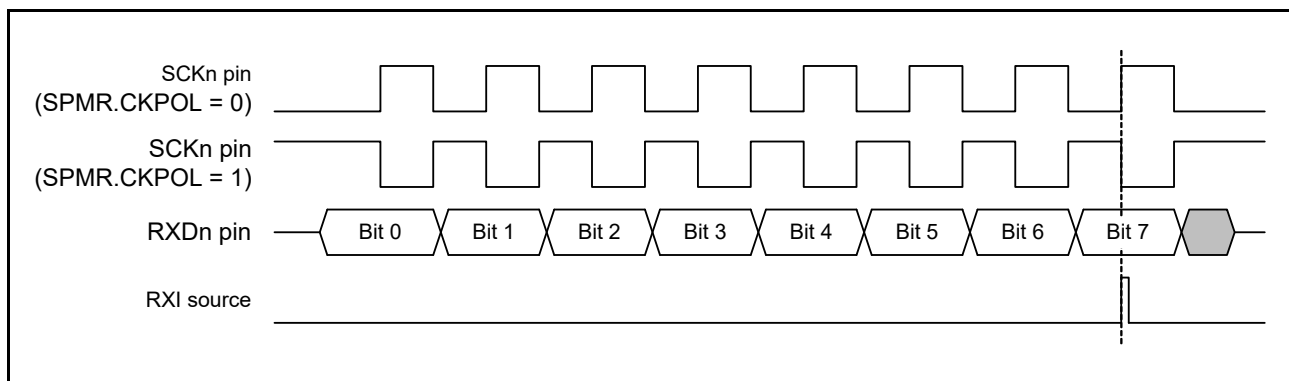

Figure 23.80 Timing of the RXI Interrupt in Simple SPI Mode (with Clock Delay)
- In the case of the setting for clock delay (SPMR.CKPH bit is 1), the receive data full interrupt (RXI) is generated before the final clock edge on the SCKn pin as indicated in Figure 23.80. If the TE and RE bits in the SCR become 0 at this time before the final edge of the clock signal on the SCKn pin, the SCKn pin is placed in the high-impedance state, so the width of the last clock pulse of the transfer clock is shortened. Furthermore, an RXI interrupt may lead to the input signal on the SSn# pin of a connected slave going to the high level before the final edge of the clock signal on the SCKn pin, leading to incorrect operation of the slave.